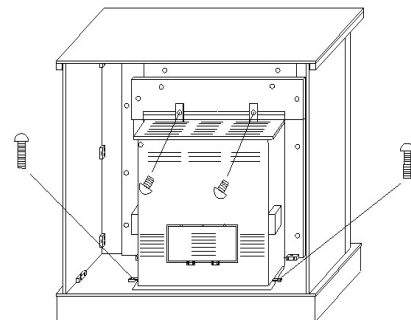

Fig. 11
Step 2: Attach 2 SMALL BRACKETS [N] on the top of insert and lock in place with 2 KD SCREWS [Q]. Attach 2 Medium Brackets [P] to the bottom of insert with 2 KD screws [Q]. See Fig. 11.